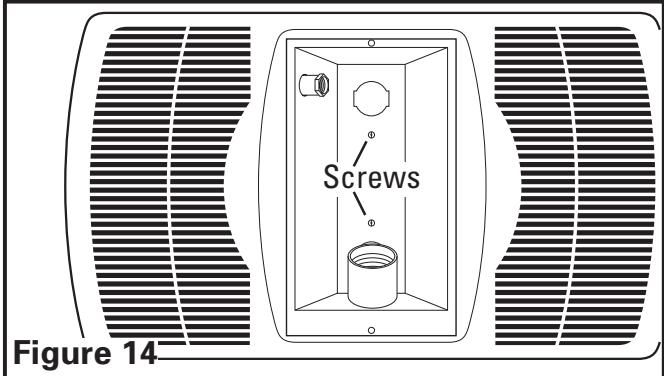

Figure 14
- Attach light reflector in place with the two screws removed during Step 2 in SECTION 1 Preparing the Unit so grill fits snugly against ceiling (Figure 14).